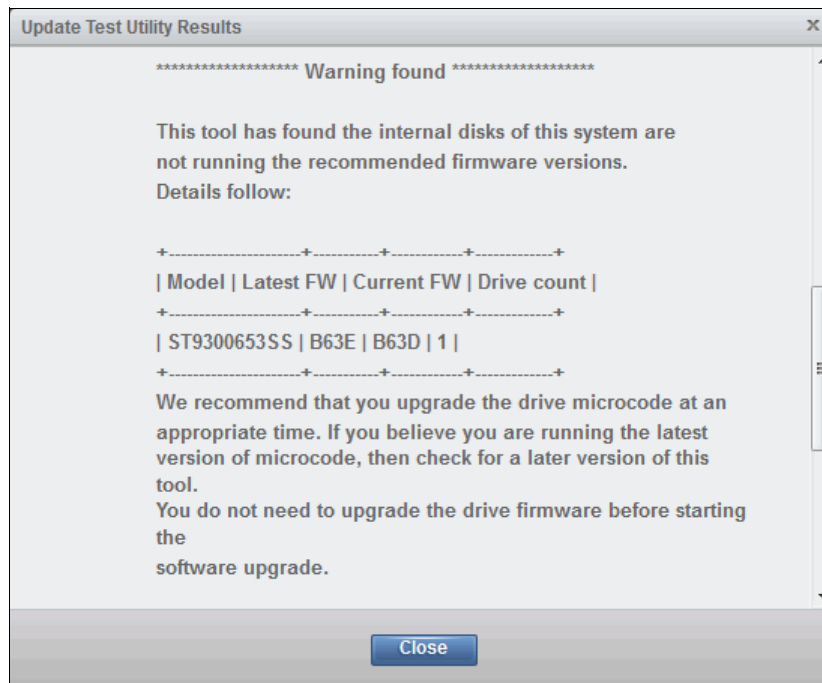

Figure 11-31 Test Utility results
10. Close the warning window and then click the **Read more** link to display the results of the test utility, as shown in Figure 11-31.